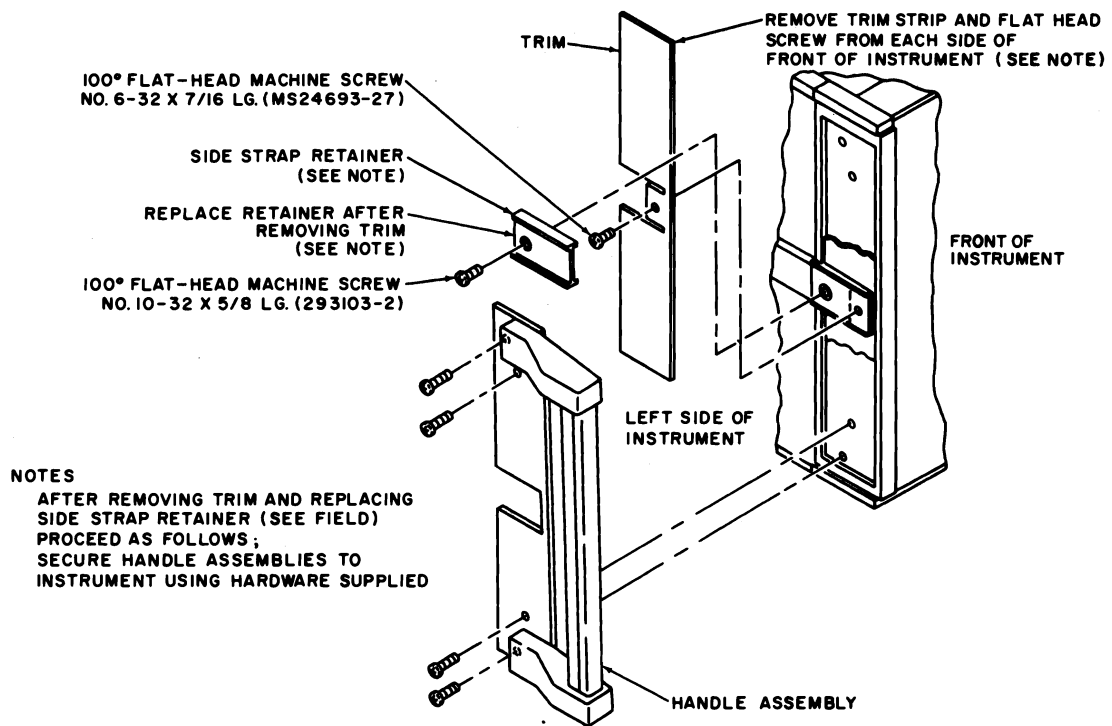

Figure 2-2. Front Handles
a. Front Handles. (See Figure 2-2).